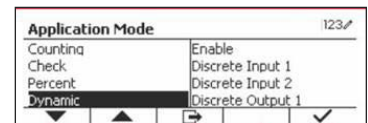

Figure 86
4. In the Application Mode menu, enter the Dynamic submenu. (See Figure 86)